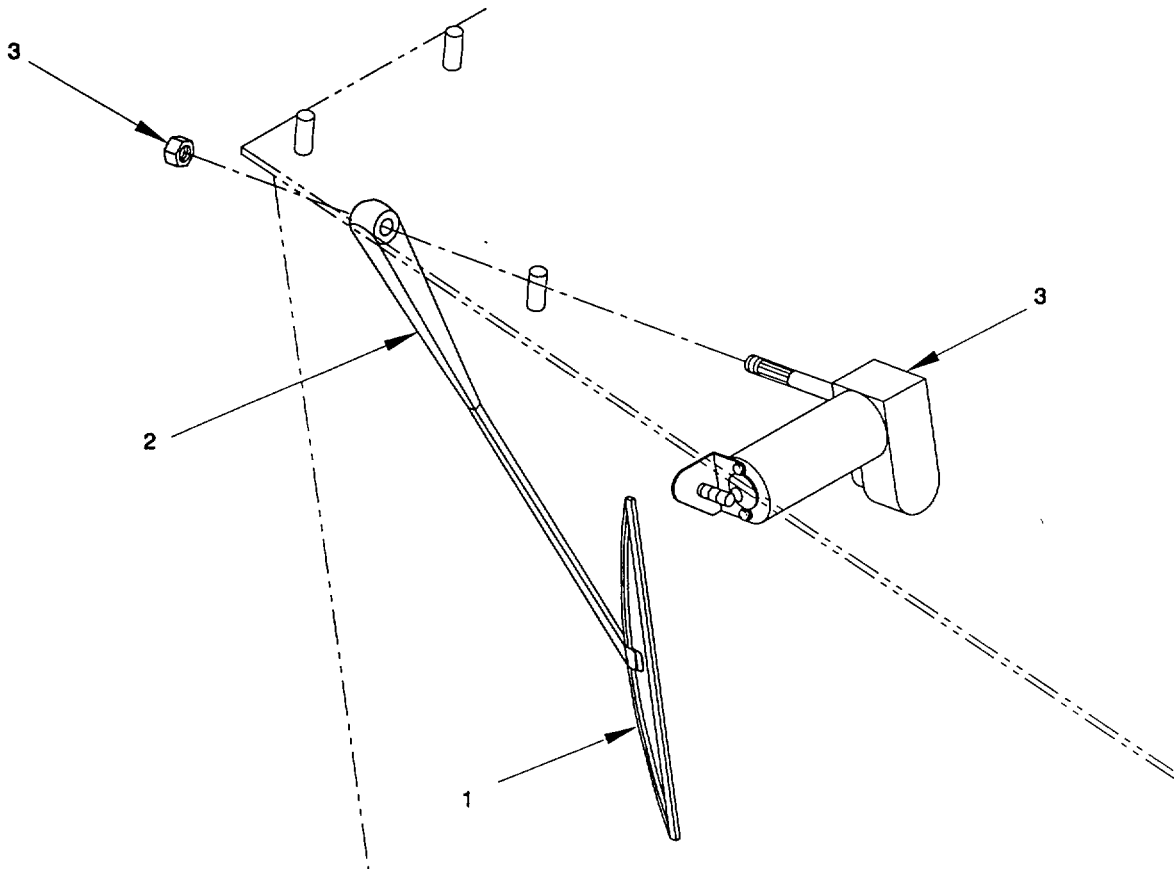

Figure 2-98. Wiper Arm, Remove/Install
a. Remove. (figure 2-98)
- (1) Remove wiper blade (1) from wiper arm (2).
- (2) Remove wiper arm (2) from windshield wiper motor (3).
b. Install. (figure 2-98)
- (1) Install new wiper arm (2) on windshield wiper motor (3).
- (2) Install wiper blade (1) on wiper arm (2).